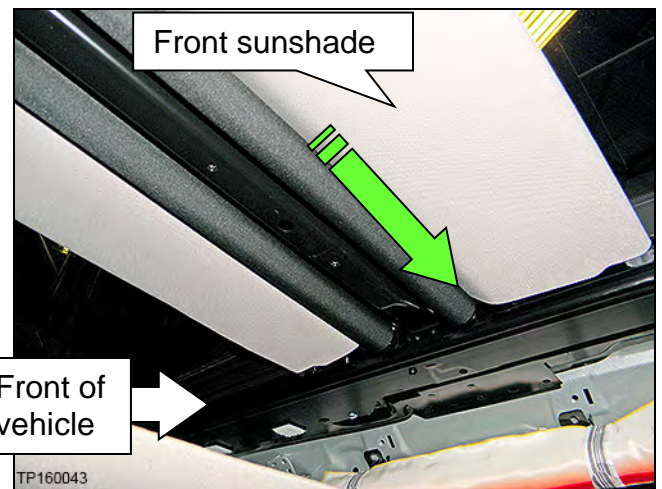

Figure 70
- a. Detach the front sunshade by pulling it toward the left of the vehicle to compress the tension spring (Figure 70).